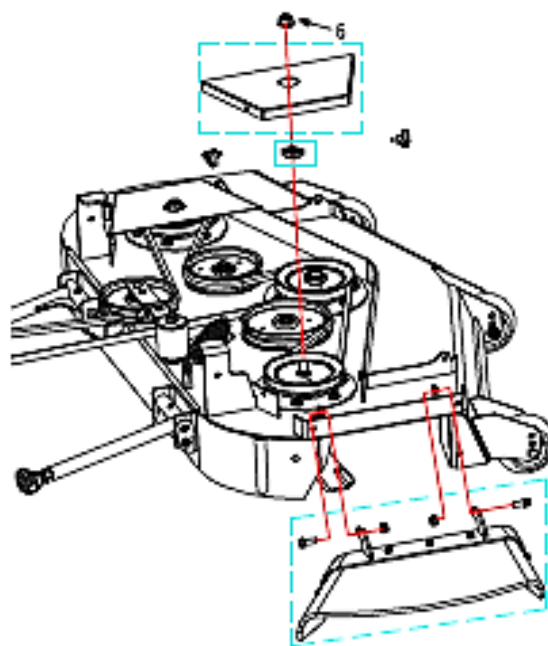

FIG 1
- Remove the side discharge chute, bushing, and belt cover (FIG 1) from the mower deck.